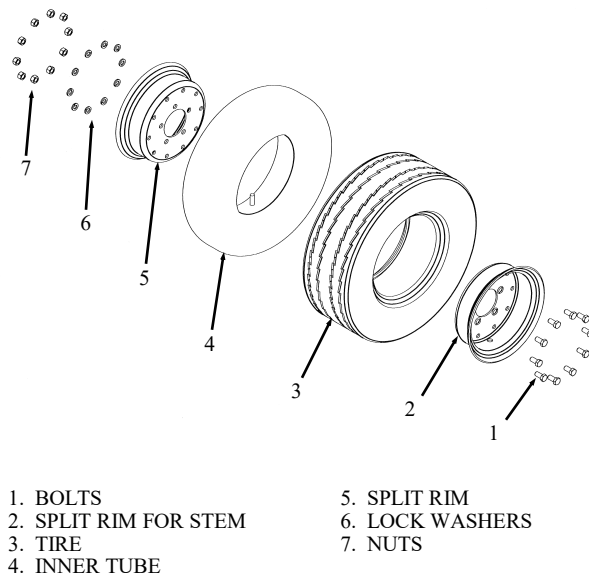
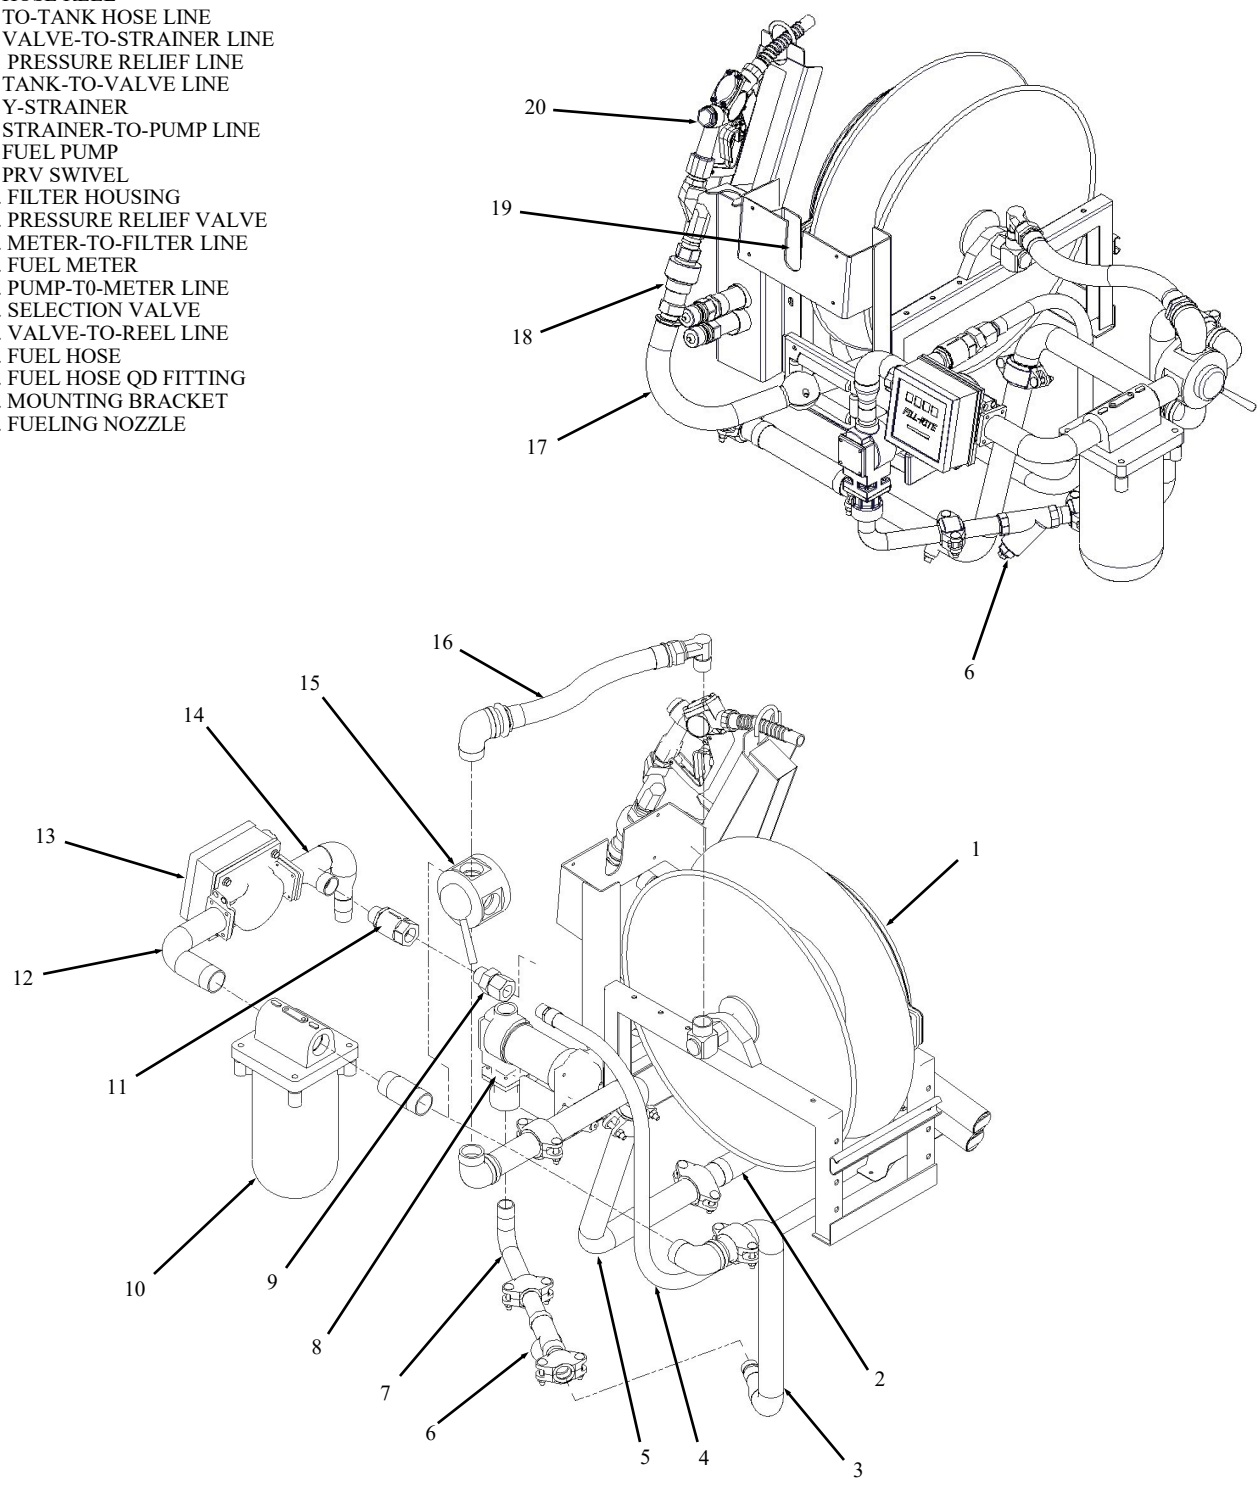

Figure 5-10. Wheel Assembly
Figure 5-12a. Plumbing Assembly Fill-Rite Pump/Meter (Model AGEXXXX-12VDC)
5.3.5 Wheel Assembly. The Wheel assembly is a two-piece, split rim design. Use Figure 5-10 for the following maintenance steps.
- c. Remove nuts (7), lock washers (6), and bolts (1).
- d. Separate split-rims (2) and (5) from tire (3).
- e. Remove inner tube (4) from tire (3). Reassembly in reverse order. Ensure that inner tube stem is positioned through access hole in split-rim.
- f. Torque split rim nuts (7) to 75-foot-pounds before applying air pressure to wheel.
5.3.6 Plumbing Assembly. The Plumbing Assembly is located at the rear of the unit. The assembly consists of a fuel pump (See Paragraph 5.3.6.1), a fuel meter (See Paragraph 5.3.6.2), a filter housing (See Paragraph 5.3.6.3), a selection valve (See Paragraph 5.3.6.4), a hose reel (See Paragraph 5.3.6.5), and several plumbing lines, hoses, and other plumbing items (See Paragraph 5.3.6.6). Paragraph 5.3.6.7 describes how to change the fuel filter element. Use Figure 5-12a, 5-12b or 5-12c for the maintenance steps described in 5.3.6.1 through 5.3.6.5.